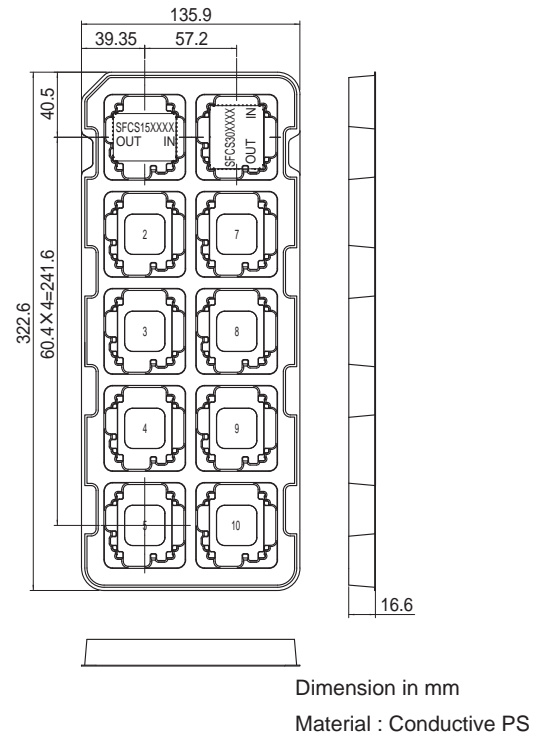

Fig.9.4 Delivery package information(SFCS15/SFCS30)
- These are packed in a tray (Fig.9.4).